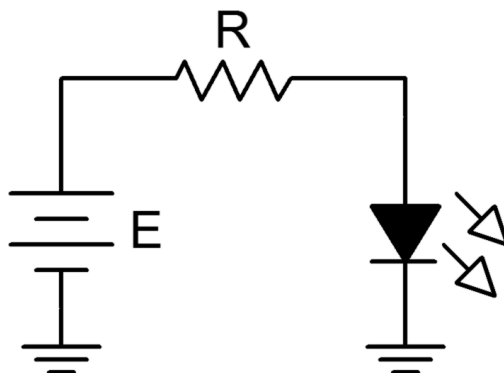
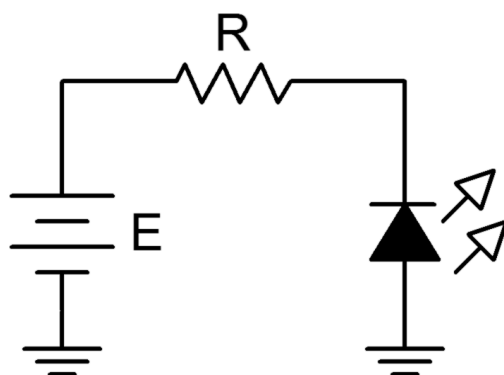

Figure 1
Figure 2
1. Consider the circuit of Figure 1 using  $R = 1\text{ k}\Omega$ . For any positive value of  $E$ , the diode should be forward biased. Once  $E$  exceeds the knee voltage, the difference between the source and the knee drops across  $R$ . Thus, as  $E$  increases, so does the LED current and hence its brightness.
2. Build the circuit of Figure 1 using  $R = 1\text{ k}\Omega$  and the red LED. Set  $E$  to 0 volts and measure both the LED voltage and current and record the results in Table 1. Note the relative brightness level. Repeat this process for the remaining source voltages listed.
6. Replace the LED of Figure 1 with the high brightness white LED. Set the supply to 12 volts. Record the LED voltage, current and brightness in Table 4.
7. Consider the circuit of Figure 2 using  $R = 1\text{ k}\Omega$ . For any positive value of  $E$ , the LED should be reversed biased. In this case, the LED should always be open causing no current to flow. If no current flows, the LED produces no light. Also, the voltage across  $R$  should be zero, and thus the LED voltage should be equal to the applied source voltage. Note that the LED voltage polarity is negative with respect to that of Figure 1.
8. Build the circuit of Figure 2 using  $R = 1\text{ k}\Omega$  using the red LED. Set  $E$  to 0 volts and measure both the LED voltage and current and record the results in Table 5. Repeat this process for the remaining source voltages listed.